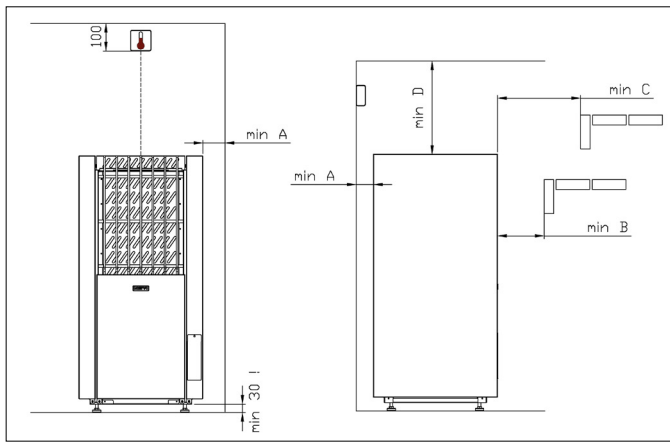

Figure 1. Safety distances for stoves
**) See figure 1
- Observe the safety distances (Fig. 1) when installing the stove.